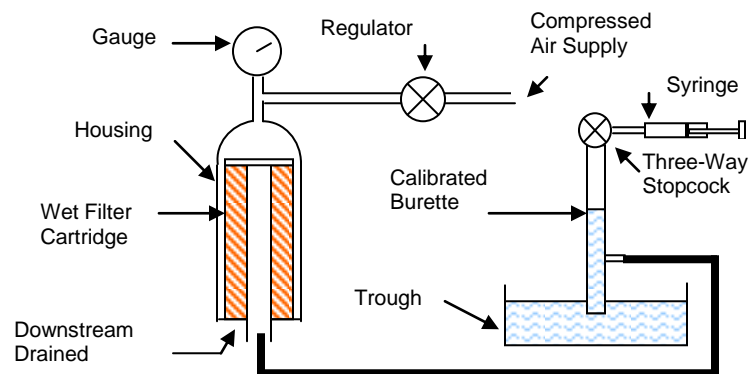

fig 1
2. With the wetted Cartridge positioned in the housing, connect housing **inlet** to a regulated source of clean compressed air (or other test gas such as nitrogen), and connect housing **outlet** to a suitable piece of flexible tube, extending into a inverted calibrated burette over a water trough partially filled with water (see fig 1).